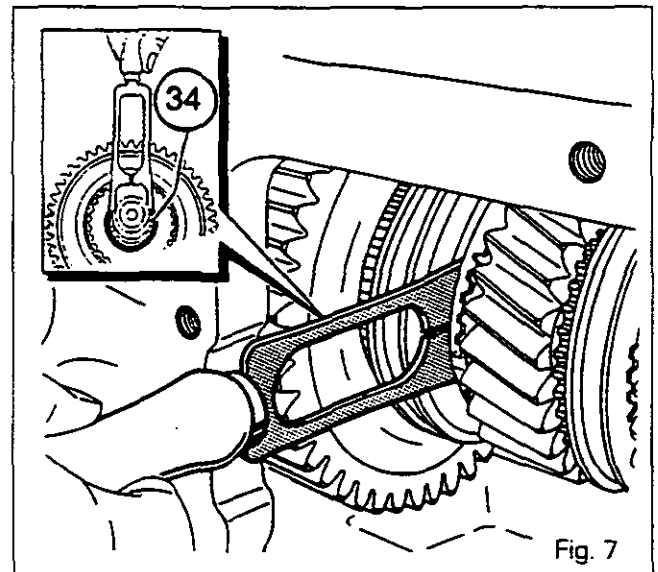

Fig. 7
17. Remove the cone (39).
18. Remove the adjusting shims (38).
19. Pull the shaft (44) towards the rear.
20. Remove the snap ring (34) using tool MF 460 and discard it (see Fig. 7).
22. Through the opening in the selector cover, take out the synchromesh (31), the synchromesh rings (33) and (74), the gear (29) with cones (75) and (76), the ring (25), the two thrust washers (27) and (32) and the Tortoise gear (36).